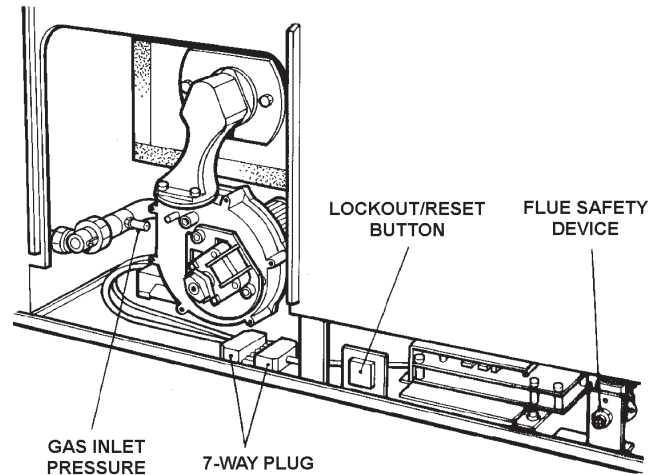

Fig. 2
SEE FIG. 2
4. Disconnect the terminal plug. (See Fig. 2)